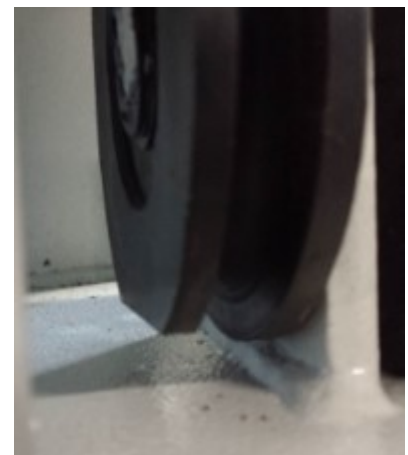

Fig.5
4. Both lower pulleys have one straight edge, this needs to face downwards (fig.5), now pass the cable through.